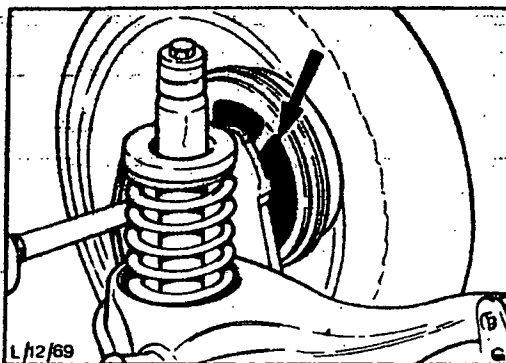

Fig. 17. Rear brake shoe viewing aperture.
1. Remove rubber plug from rear brake carrier plate, Fig. 17. Aperture is adjacent to leading shoe which is subject to faster wear rate than trailing shoe.